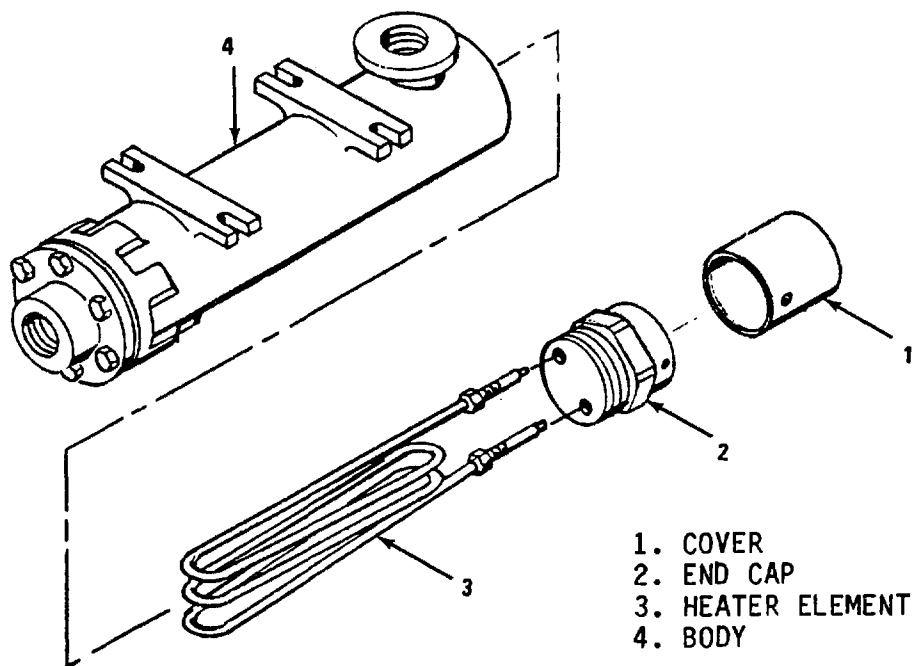

Figure 5-11. Electric Heater, Exploded View
(1) Refer to paragraph 5-31c, below, and remove the heating element.
(2) Inspect heating element (3, figure 5-11) for breaks and damage.
(3) Replace heating element in accordance with paragraph 5-31c.
(2) Tag and disconnect harness wires from heater terminal studs by removing nuts (31) and washers (32).
(3) Remove end cap (2, figure 5-11) and heater element (3).
(4) Install new heater element (3) and reinstall end cap (2).